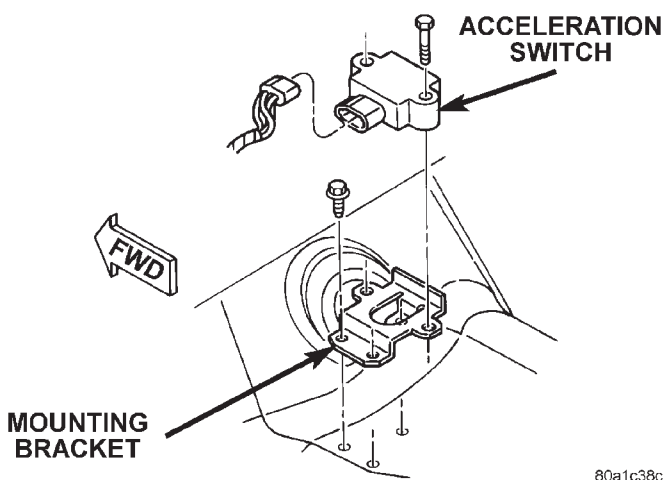

Fig. 14 Acceleration Switch
(1) From the drivers side lift carpet back in front of the console/shifter.
(2) Disconnect harness for switch.
(3) Remove mounting bolts and remove switch (Fig. 14).